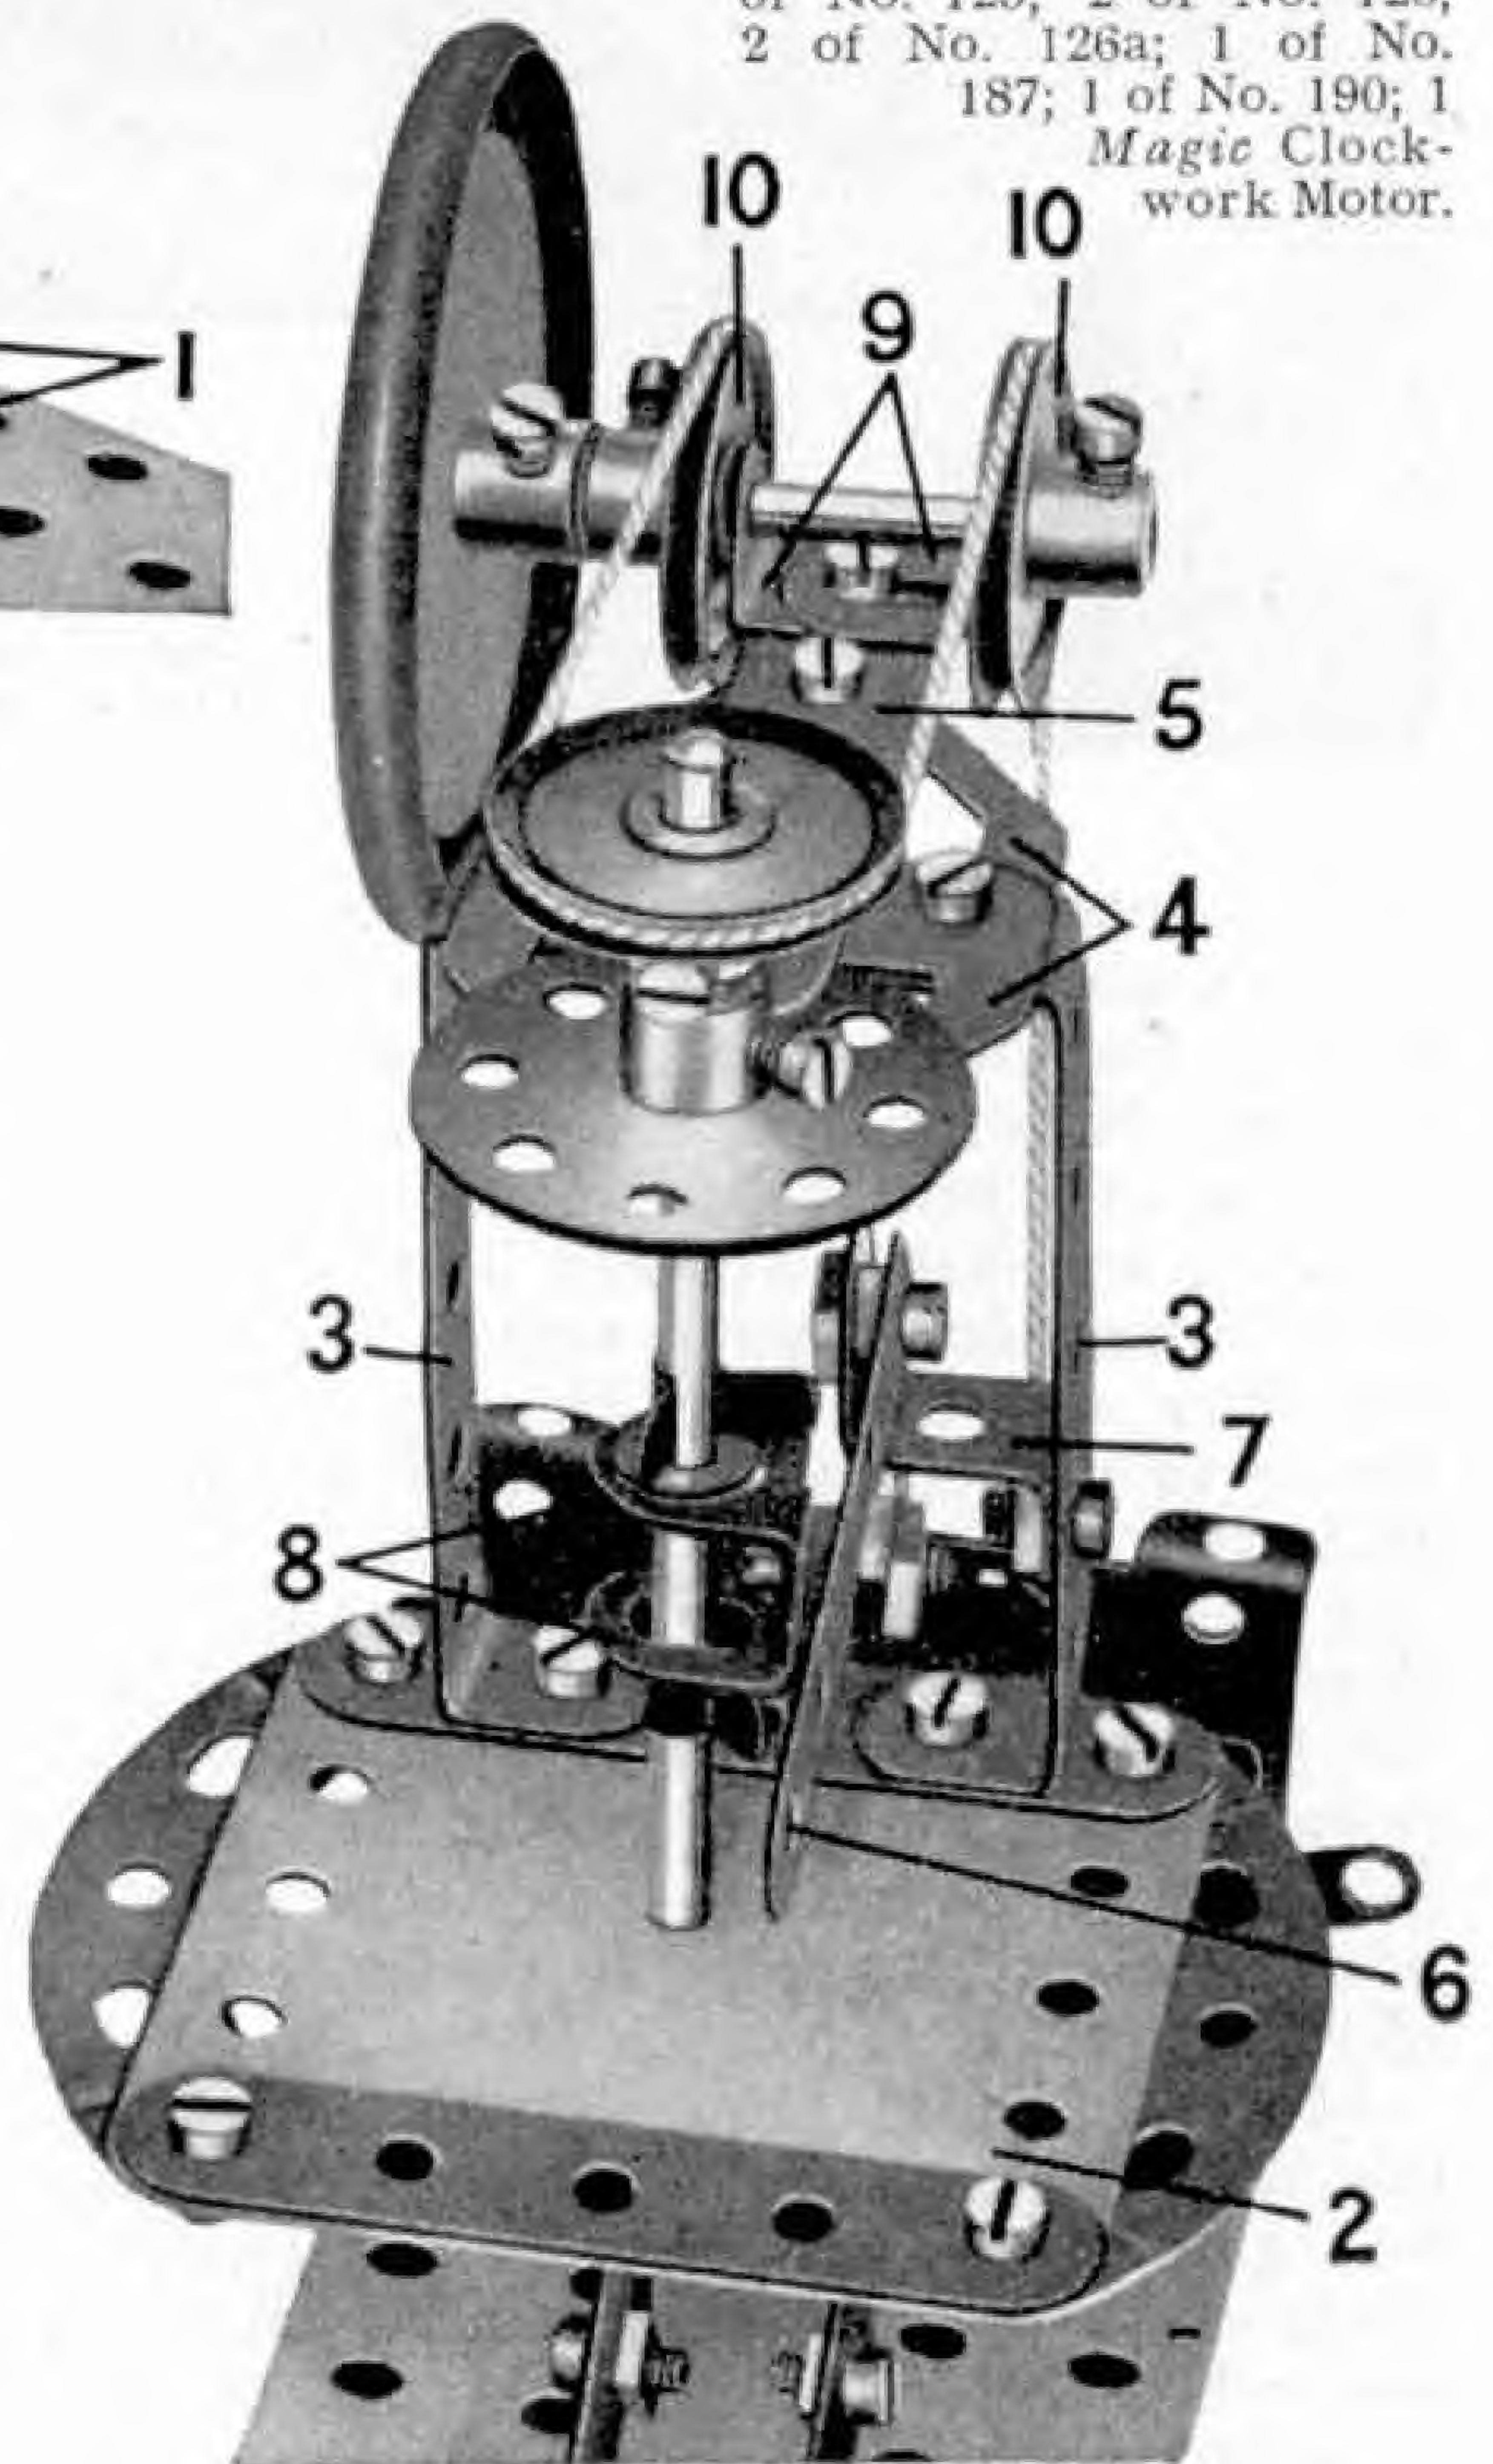

Fig. 3. A close-up picture of the drill head, showing the arrangement of the belt drive and the method of pivoting the drill control lever.
The drill shaft is a $3\frac{1}{2}"$ Rod, and it is free to turn in the boss of a Bush Wheel bolted to the Strip (5). The boss of the Bush Wheel is placed over the hole at the pointed end of one of the Flat Trunnions (4). For the purpose of raising and lowering the drill spindle a lever marked (6) is provided. This lever is a $2\frac{1}{2}"$ Strip and it is *lock-nutted* to the $\frac{1}{2}"$ Reversed Angle Bracket marked (7), which is bolted to one of the Double Angle Strips (3). Now bolt two Angle Brackets tightly together by a nut on a $\frac{3}{8}"$ Bolt. These are numbered 8 in Fig. 3. Pass the $\frac{3}{8}"$ Bolt through the centre hole of the lever (6) and fit it with *lock-nuts*. Make sure that the Bolt is able to pivot freely. Then pass the drill shaft through the slotted holes of the Angle Brackets (8), and prevent it from sliding by placing on